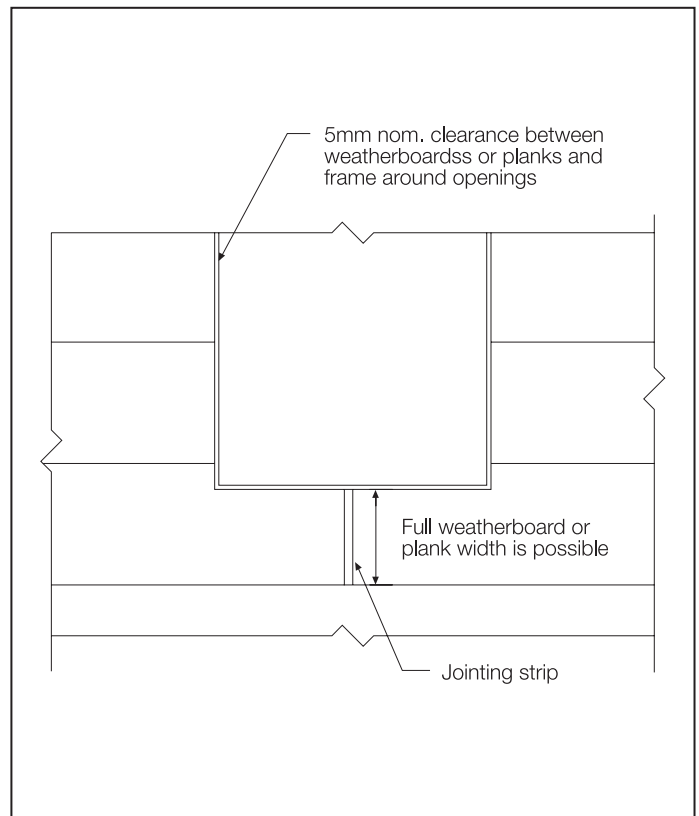

FIGURE 32 CUTTING AROUND OPENINGS
- For opening widths up to 1800mm - 1 joint minimum. Ideally, this should be located at a corner, but where joint lengths override this, the location of the joint can fall between the two corners. Refer to Figure 32.